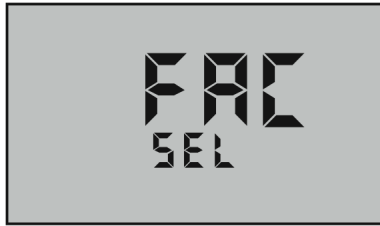

Figure 17
3. Press  repeatedly until you pass the “**CLF ALL**” and the C-F locations. The display will show a “**FAC SEL**” (see Figure 17).